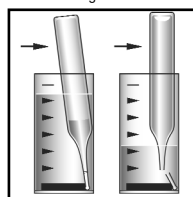

Figure 2
For CHEMetrics photometers, follow the **Setup and Measurement Procedures** in the operator's manual. For spectrophotometers, set the wavelength to 400 nm. A sealed ZERO ampoule is supplied in this kit for zeroing when the sample is colorless and not turbid. For improved accuracy with colored or turbid samples, Sample Zeroing Accessory Pack, Cat. # A-0503 is recommended. Using the sample cup, snap the tip of the A-0503 ampoule in the sample (see figure 2 below). Invert the ampoule to mix. Dry the ampoule and use it in place of the supplied ZERO ampoule to zero the instrument.
2. Place the Vacu-vial ampoule, tip first, into the sample cup. Snap the tip. The ampoule will fill leaving a bubble for mixing (fig. 2).